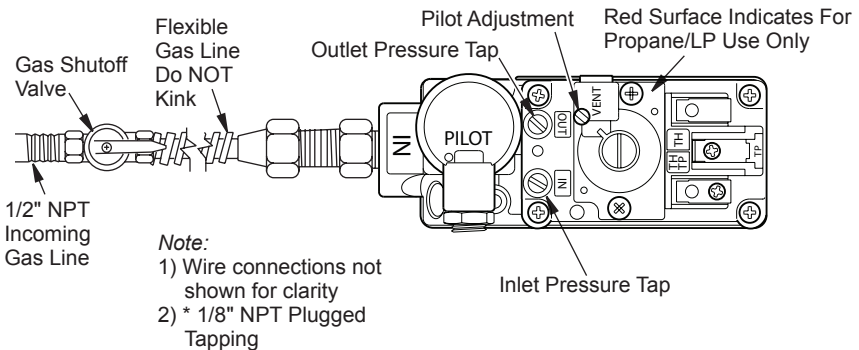

Figure 20 - Connecting Incoming Gas Line to Flex Gas Line
2. Attach flexible gas line from gas supply to control valve (see Figure 20).